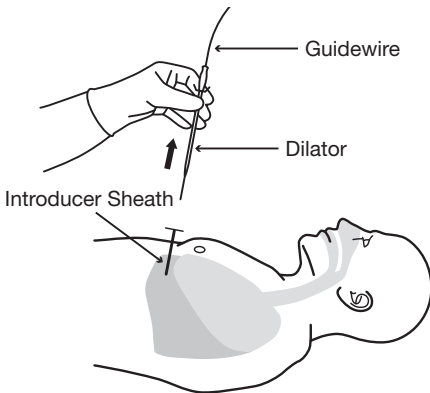

Fig. 5
20. Remove guidewire and dilator as one from tearaway introducer, leaving introducer in place. *Place thumb over end of introducer to prevent air from entering pleural space.* (Figure 5)